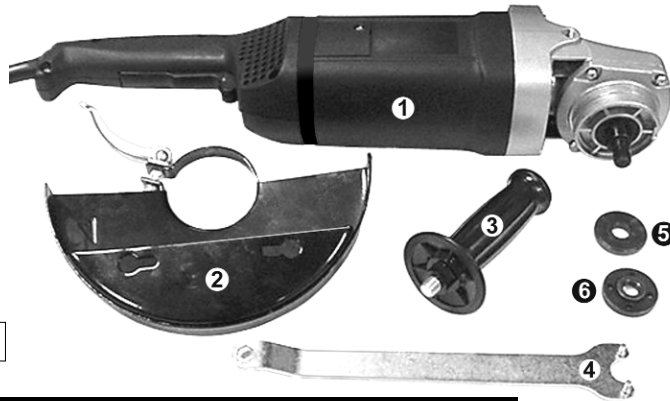
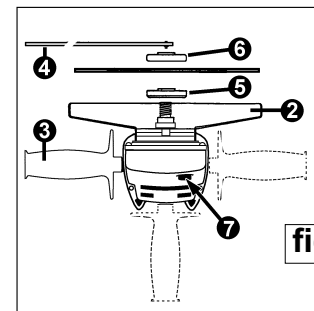

fig.1
fig.4
- 3.1.1 Take the guard (fig.1 item 2) and unlock the clamp. On the inside of the guard clamping collar is a small pip (indicated by arrow 'A' in fig.2) which must be aligned with a notch in the housing (also indicated by arrow 'A'). Orientate the guard as shown in fig.2 and place it over the central spindle and onto the housing. Leaving the clamp open, rotate the guard on the housing until it is over the main body of the tool as indicated in fig.3.
- 3.2.1 Lay the grinder on it's back and place the clamping flange onto the centre spindle with the raised ring facing upwards (see fig 4 item 5). Rotate the clamping flange on the spindle until the flats on its back face drop into alignment with the flats on the spindle. When the clamping flange is in the correct position it can no longer be rotated on the spindle.
- 3.2.5 Stop the spindle from turning by pushing in and holding the disc stop button (see fig.4 item 7).
- 3.2.6 Lock the grinding disc into place by tightening the disc retaining flange nut with the pin wrench (fig.4 item 4).
Always use the hand grip for better control and improved safety. Fit the hand grip (fig.1 item 3) by screwing it into the appropriate left, right or top position on the grinder head as indicated in fig.4.